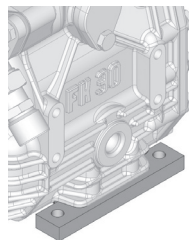

Fig. 4
- In the condition on delivery the compressor is provided with installation feet (see Fig. 4). Alternatively the compressor can also be bolted directly, without installation feet, on the substructure.